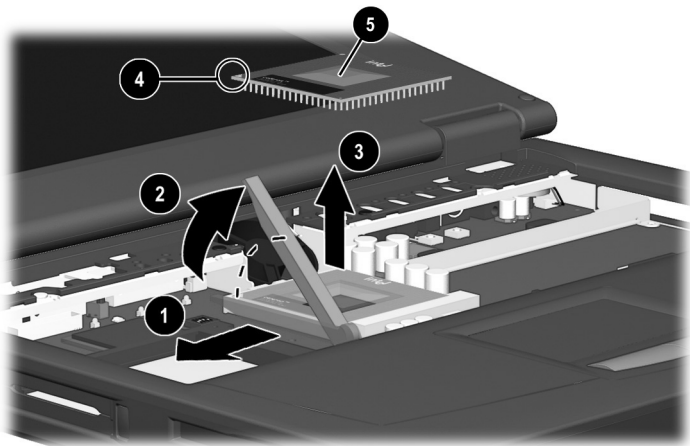

Figure 5-14: Removing the Processor
2. Slide the processor lever to the left ❶ and then swing it up and forward ❷ until it is vertical (Figure 5-14).
3. Lift the outside edges of the processor straight up to remove it from the system board ❸.